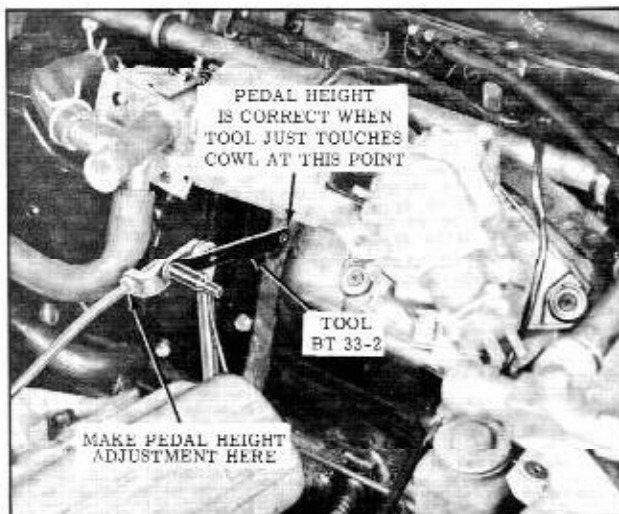

Fig. 3-140 Checking Pedal Height
14. Adjust pedal height with Tool BT-33-2 as shown in Fig. 3-140.